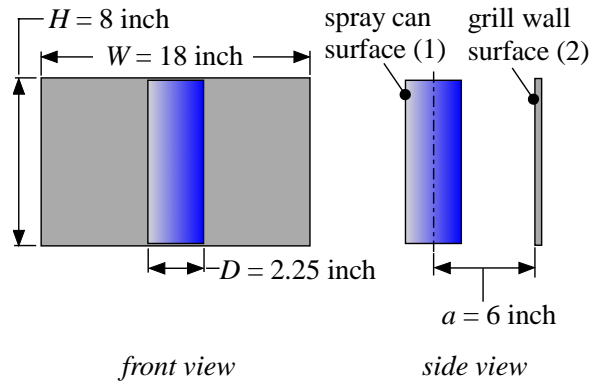

**Figure P10.3-9: Cylindrical cavity heated from the bottom and cooled on top.**
**10.3-9 (10-9 in text)** The bottom surface of the cylindrical cavity shown in Fig. P10.3-9 is heated to  $T_{bottom} = 750^\circ\text{C}$  while the top surface is maintained at  $T_{top} = 100^\circ\text{C}$ . The sides of the cavity are insulated externally and isothermal (i.e., the sides are made of a conductive material and therefore come to a single temperature).